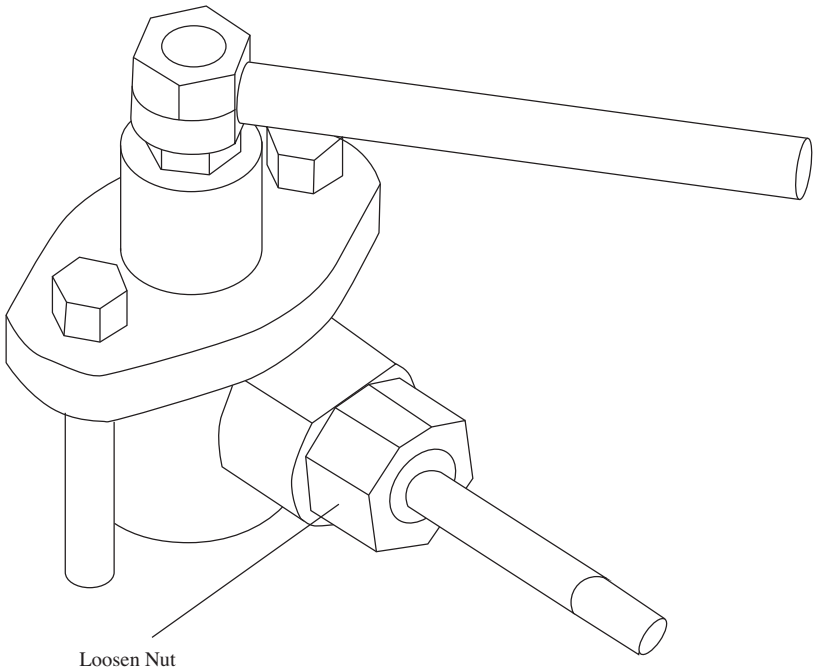

FIG. 6-25 *Loosen the high-pressure union at the injector to check for fuel delivery and to purge air from the system.*
2. Loosen the high-pressure line at the injector a half turn or so (Fig. 6-25). Briefly crank the engine to verify that the injector receives fuel and to bleed any air present between the pump outlet and injector.